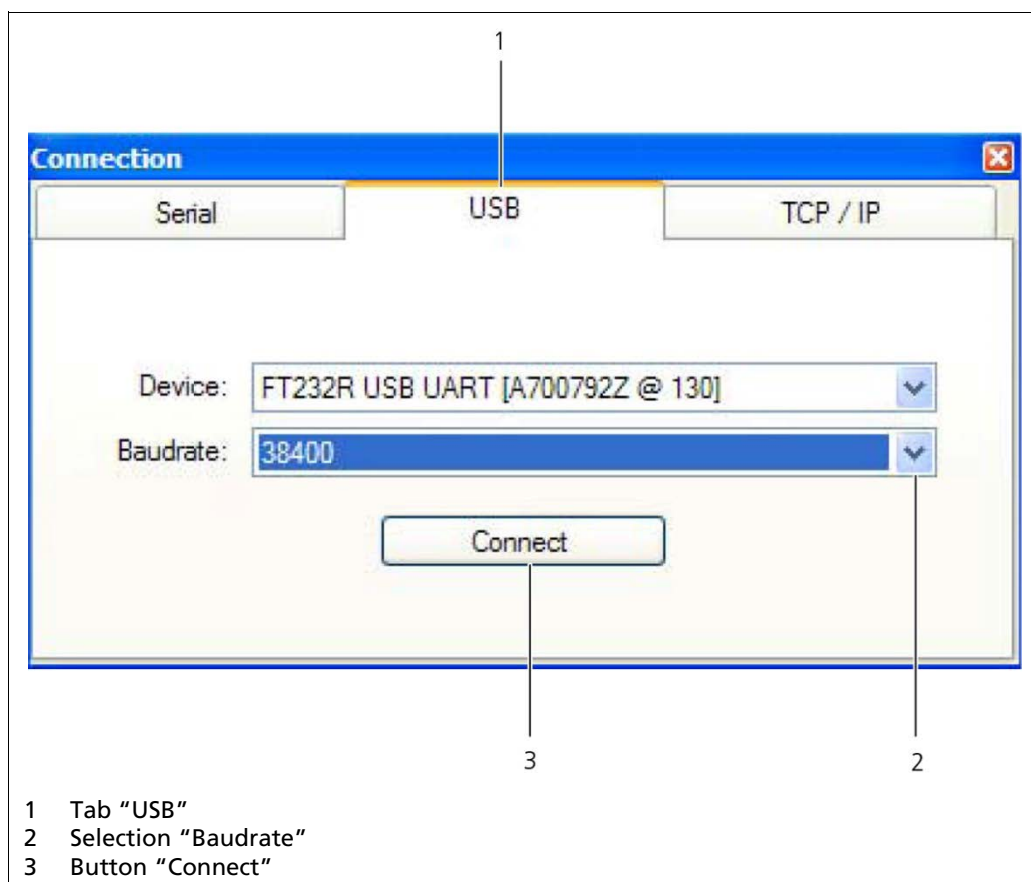

Fig.10 Connection window, Software "LB 67xx PC control"
1. Click on the tab <USB> (Fig.10, item 1).
2. In the drop-down menu (Fig.10, item 2), select a baud rate of 38400.
3. Click on <Connect> (Fig.10, item 3).